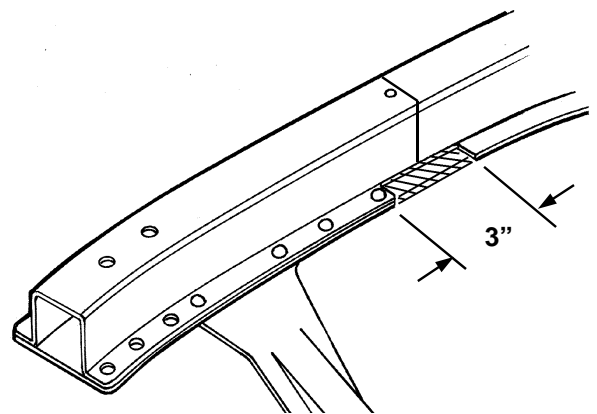

Figure 4
6. The flange on the inside of the frame rails must be trimmed off in the area of the new crossmember. Trim off the flange for a 3" length, 1 1/2" forward and rearward of the of the centerline mark. See Figure 4.